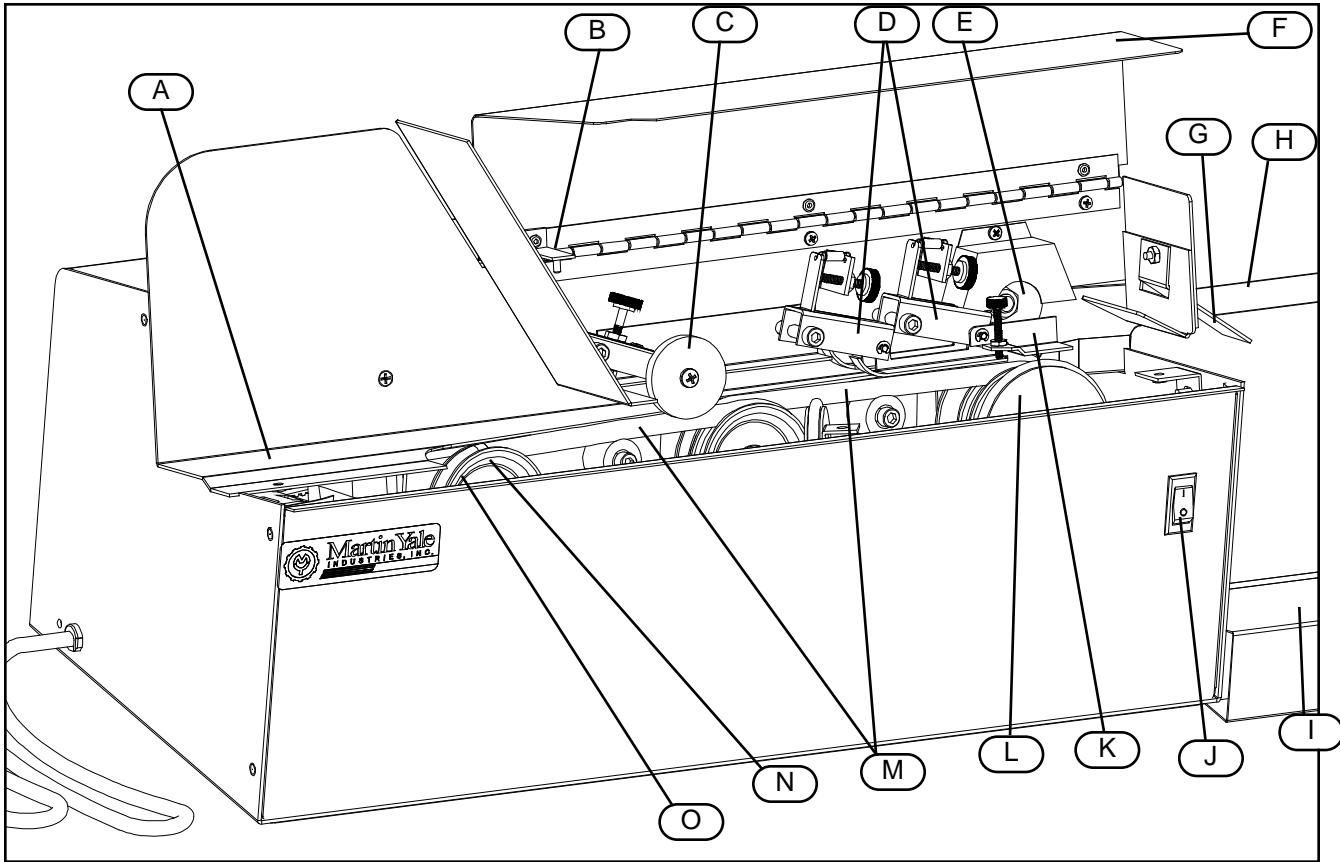
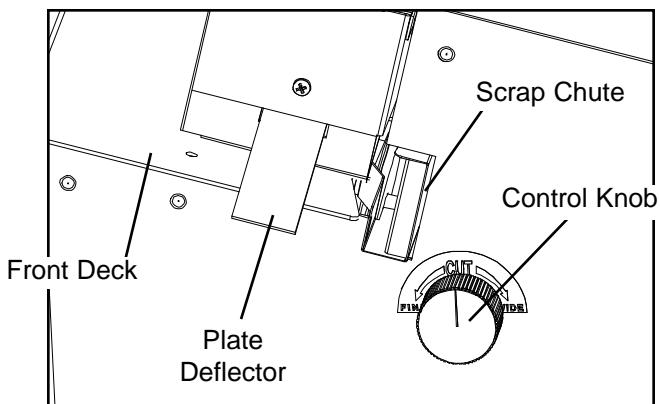

Figure 1
Figure 2
* Note the twin spiral feed belts (M, see Fig. 1). Their spiral counterclockwise action shunts envelopes against the back plate for precision slitting. Note that the belt at left is angled more sharply. This "pre-feeds" envelopes to the belt at right.
* The transporter wheel (not shown), another Model 62001 feature, acts as a further assurance that out-size pieces will be shuttled inward on the front deck (Fig. 2).
* The holdback wheel (C) prevents jamming at the loading end. Since it is spring loaded, the bulkier the envelope, the greater the pressure exerted by the holdback wheel. This effectively prevents entry of more than one piece of mail at a time.
Self-sharpening blades made of precision steel (E) cut a measured strip from each envelope, whether fed face-up or face-down. The control knob at right (see Fig. 2) adjusts the blade and permits the operator to vary the width of cut from wide to fine.
Interiors of most mail opening machines are inaccessible without the removal of the entire operating assembly. The Model 62001 has a unique split deck feature which solves that problem. The deck is split lengthwise into two halves, front (see Fig. 2) and rear. The front half is removable, making cleaning, inspection and repair of the interior of the letter opener easier.
This is a one-time only installation. Look for the plastic packet inside the shipping carton. It contains the nickel-plated plate deflector and screw. Simply attach outside at point as shown. (See Fig. 2)
The catcher base simply sits on the exit side of the folder in a position to catch processed envelopes as they are ejected from the machine (See Fig. 1 for placement). The scrap bin lies in the narrow recess of the catcher base. The entire assembly then is aligned so that the inside front wall of the scrap bin butts against the front edge of the protruding lip of the scrap chute (See Fig. 2).
Check the control knob (Fig.2) for width of cut desired, from wide to fine. The cut should be deep enough to open envelopes cleanly but fine enough to insure that the blade does not come into contact with contents such as checks and money orders, etc., nor coins, staples and paper clips. Make sure the Model 62001 is 'OFF' as indicated by the 'O' on the power switch. Plug the machine into an appropriate power outlet.